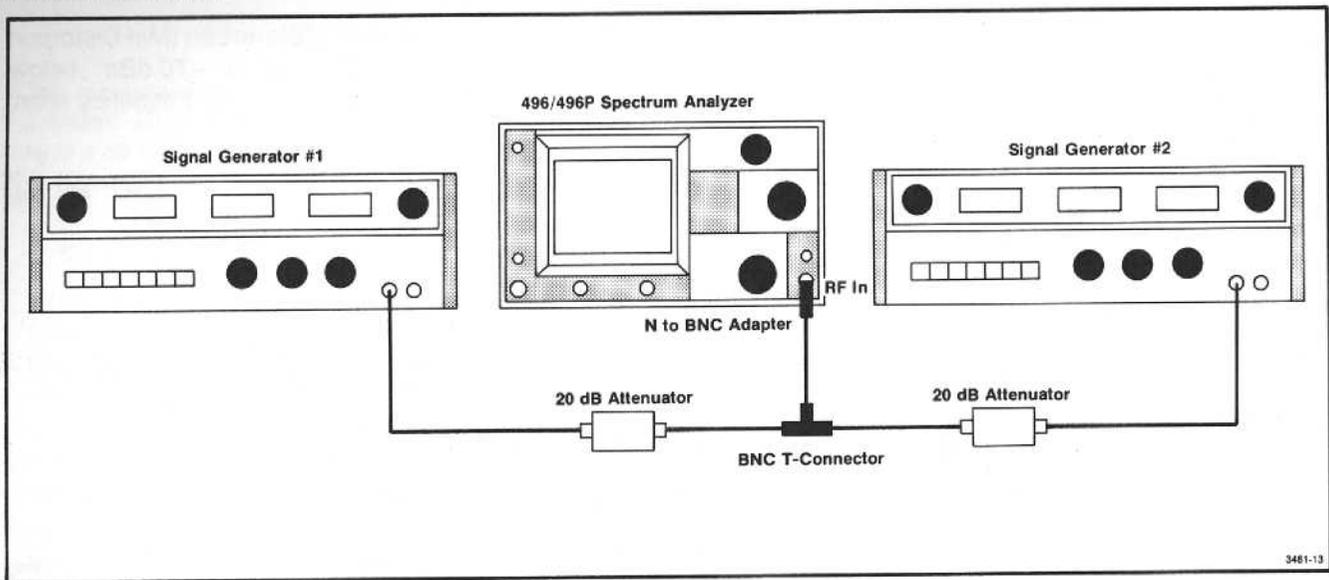

Fig. 3-13. Test equipment setup for measuring intermodulation distortion.
b. Apply two signals from two 50Ω sources, separated about 2 MHz. Apply the signals through 20 dB attenuators (for isolation), a bnc T connector, and bnc-to-n adapter, to the 496/496P RF INPUT (test equipment setup is shown in Fig. 3-13).